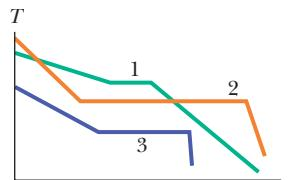

Figure 18-28 Question 9.
- 9** Three different materials of identical mass are placed one at a time in a special freezer that can extract energy from a material at a certain constant rate. During the cooling process, each material begins in the liquid state and ends in the solid state; Fig. 18-28 shows the temperature  $T$  versus time  $t$ . (a) For material 1, is the specific heat for the liquid state greater than or less than that for the solid state? Rank the materials according to (b) freezing-point temperature, (c) specific heat in the liquid state, (d) specific heat in the solid state, and (e) heat of fusion, all greatest first.